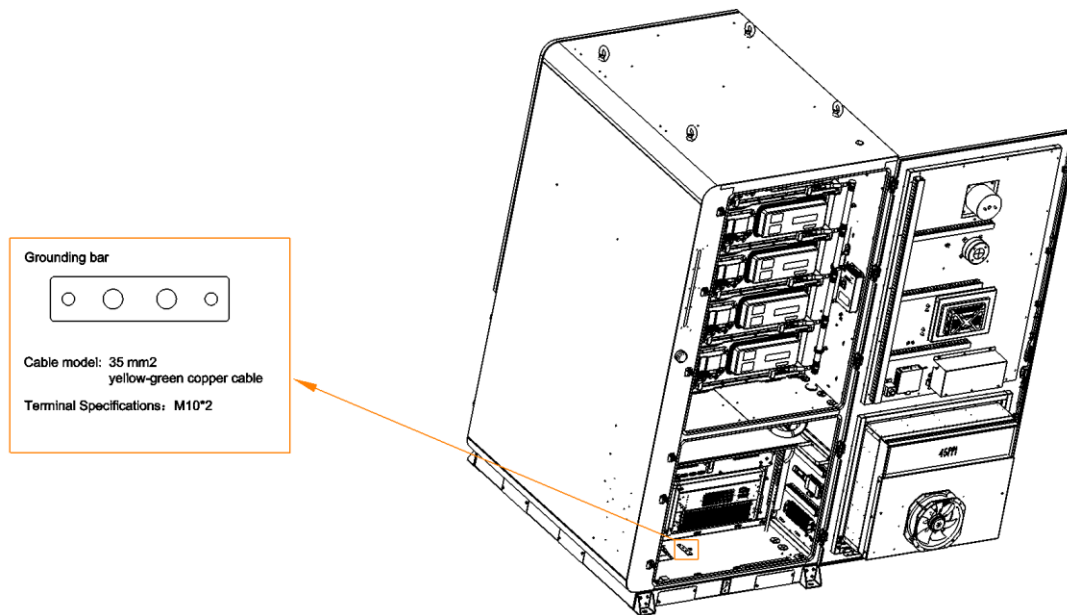

Figure 6-4 Grounding diagram of the equipment
- Step 1.** Locate the grounding point of the cabinet, as shown in Figure 6-4.